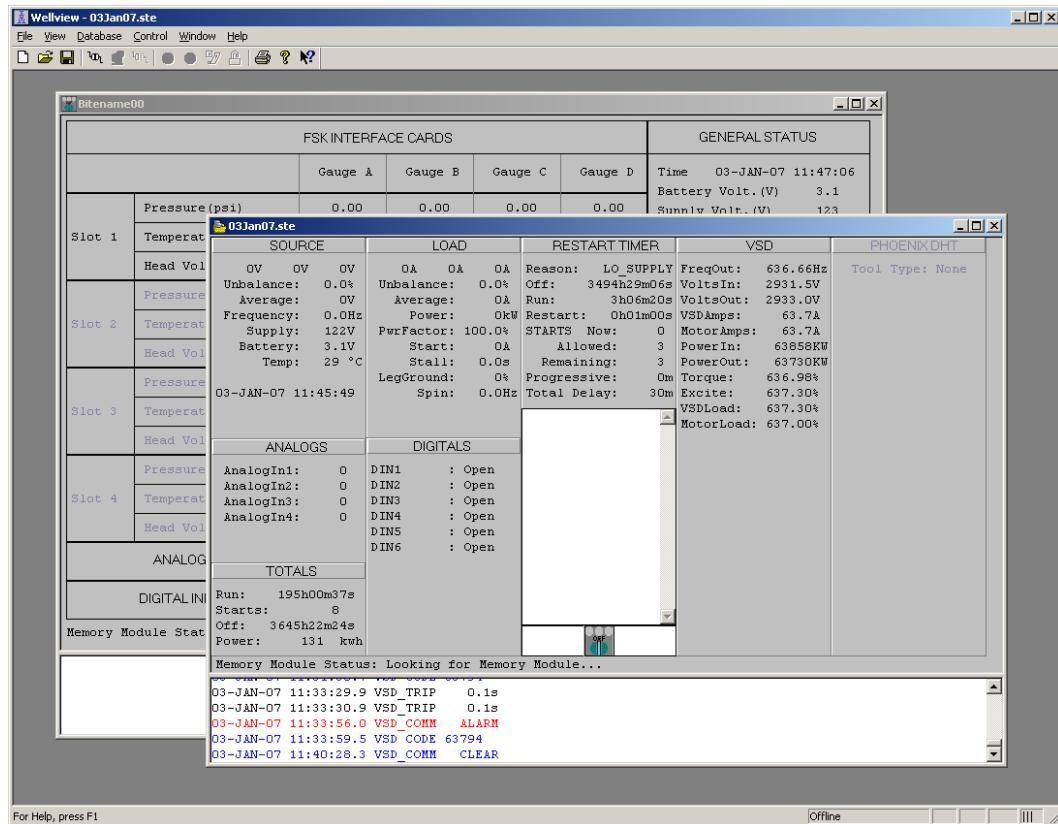

Figure 10-14: Drag and Drop
3. With the mouse cursor in the source file site window, press and hold down the left mouse key. Drag the mouse to the site window communicating to the target site. Release the left mouse key. See Figure 10-14.